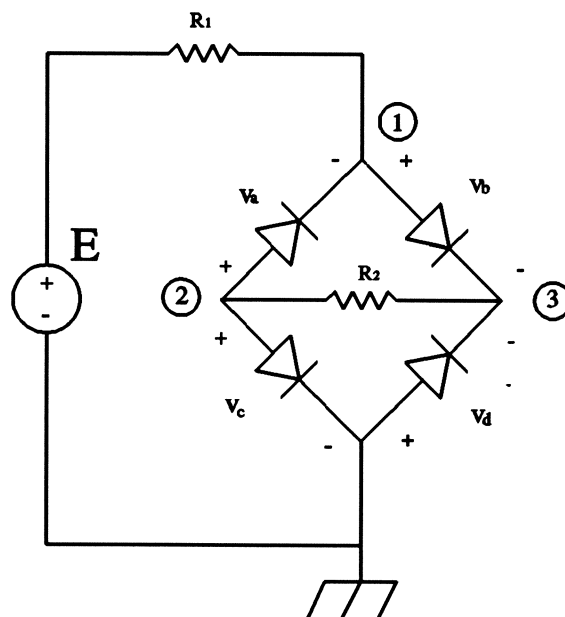

Figure 2-1.
A circuit with the diode bridge (full-wave rectifier) will be used throughout this lab. It is shown in Figure 2-1.
- (1) Augment your input file to calculate the "output" voltage $V_{out} = v_3 - v_2$, and the conductance g_d of the linearized diode model for the diode denoted by the voltage V_b in Figure 2-1. Resimulate the circuit and complete the following Table